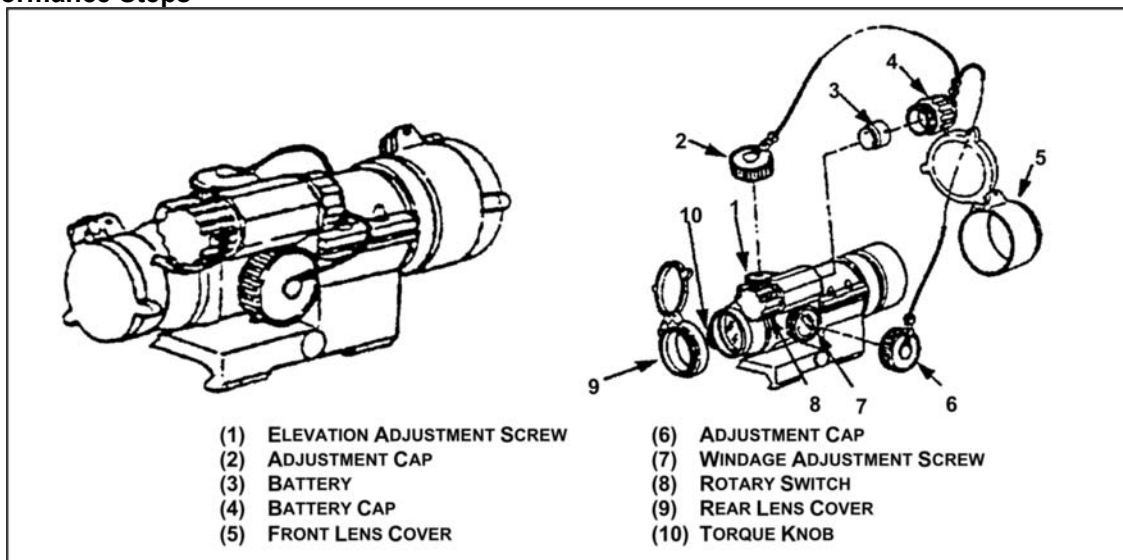

Figure 3. M68, close combat optic.
- a. Elevation adjustments screw (Figure 3): One click at 25 meters equals 4 millimeters; clockwise equals down.
- b. Windage adjustment screw (Figure 3): One click at 25 meters equals 4 millimeters; clockwise equals left.
- c. Rotary switch--10 positions (Figure 3):
- (1) Position 1 equals OFF.
- (2) Position 2 equals NIGHT.
- (3) Position 3 through 10 equals daytime intensity.